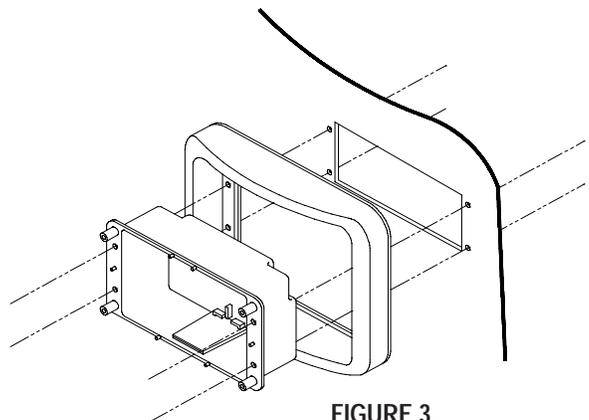

FIGURE 3
- 4) Slide the housing into the trim bezel and through to the hole on the vehicle as illustrated in Figure 3. Make sure the housing is oriented properly with the drain hole on the bottom and the two wiring holes at the top.